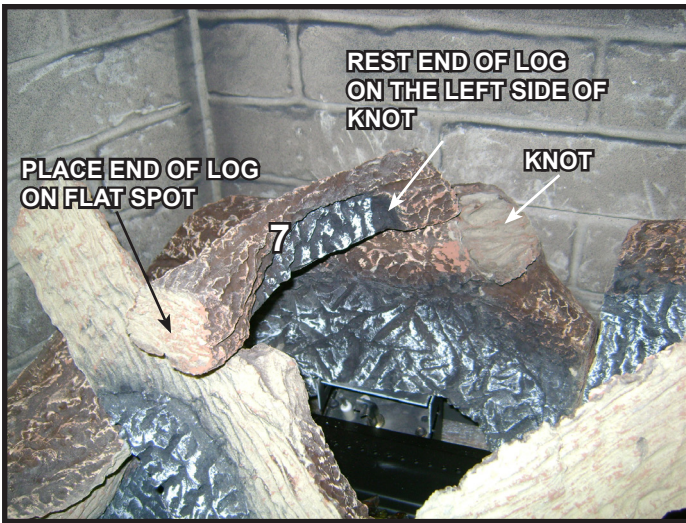

Figure 12. Place Log #7
**Log #7 (SRV2221-707):** Position Log #7 as shown in Figure 12. See Figure 2 and 10 for additional reference points. Place the front and back ends of the log on the flat spots as shown in Figure 12.